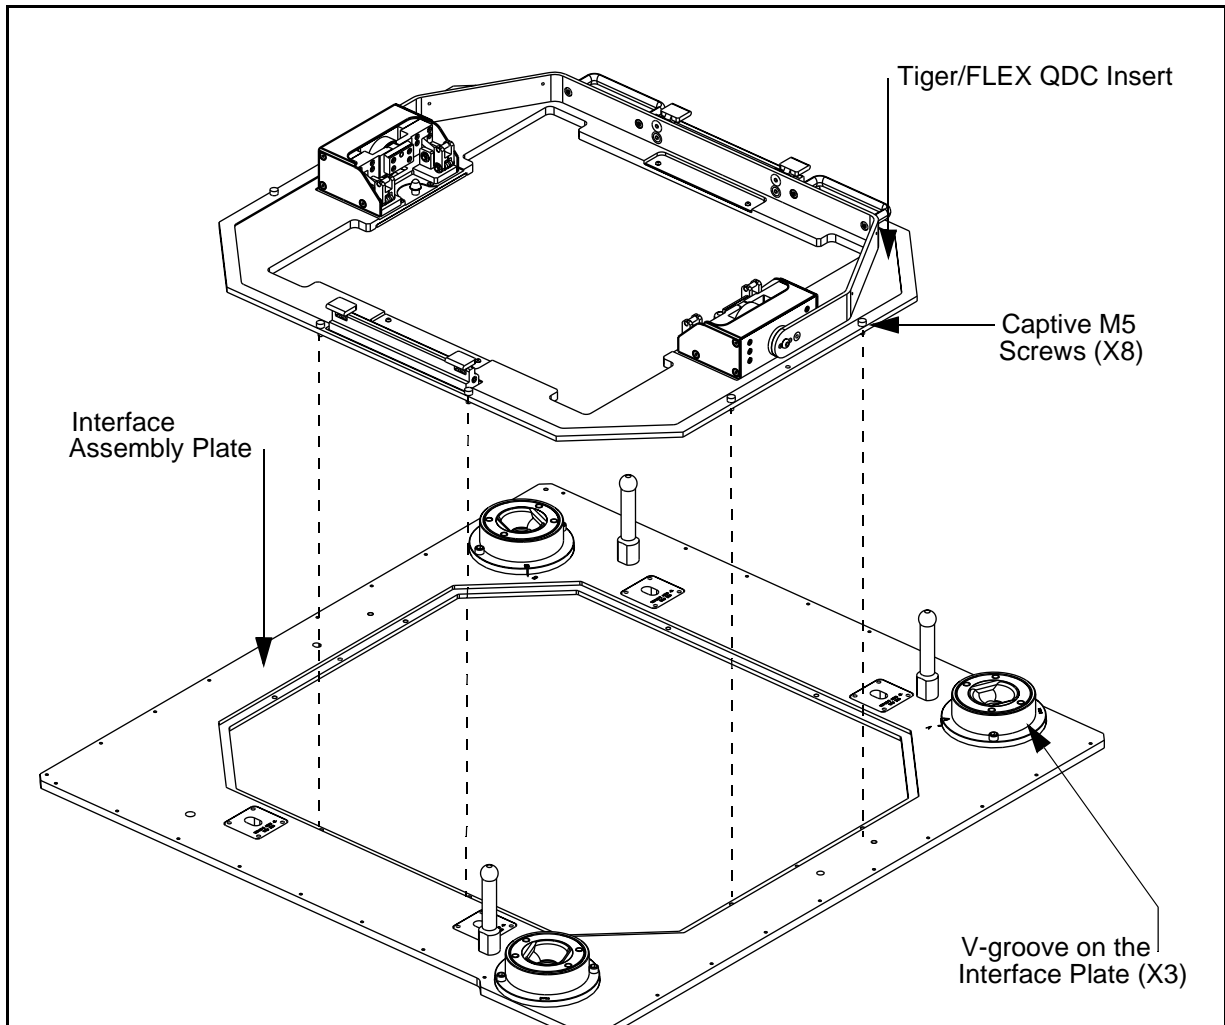

Figure 12 Attaching the Tiger/FLEX QDC Insert to the Interface Assembly Plate
- 1) Mount and align the QDC insert to the interface assembly plate using two alignment pins on the bottom of the insert flange to the hole and slot on the interface assembly plate. See Figure 12.